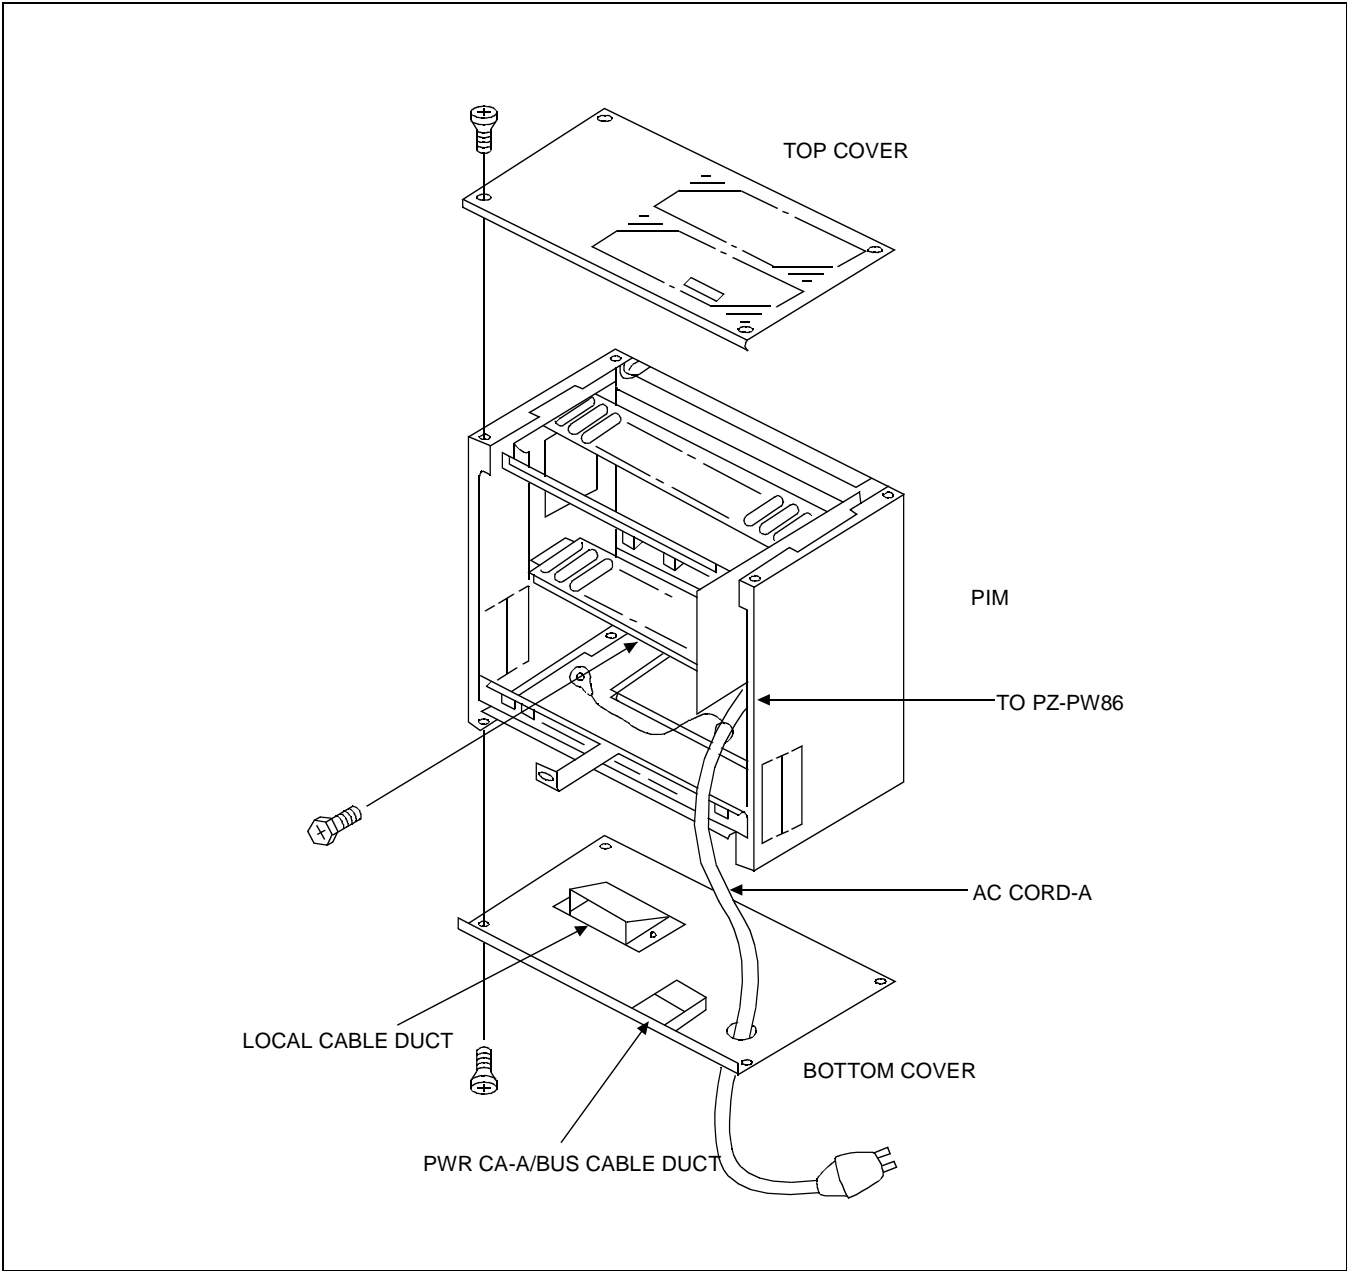

Figure 003-29 Connecting the Covers and AC CORD-A to the PIM
- (1) Connect the TOP COVER, BOTTOM COVER and AC CORD-A to the PIM as shown in Figure 003-29. The AC CORD-A is pre-installed with the BOTTOM COVER.